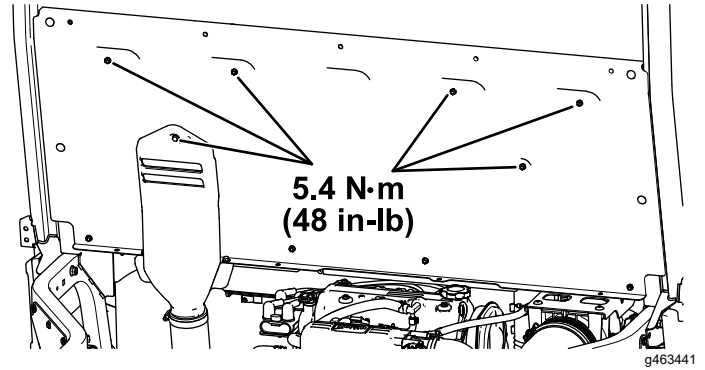

Figure 30
- H. Torque the 5 hex-washer head bolts (1/4 x 3/4 inch) and the captive bolt attached to the CVT-intake hood to 5.4 N·m (48 in-lb) as shown in Figure 30.